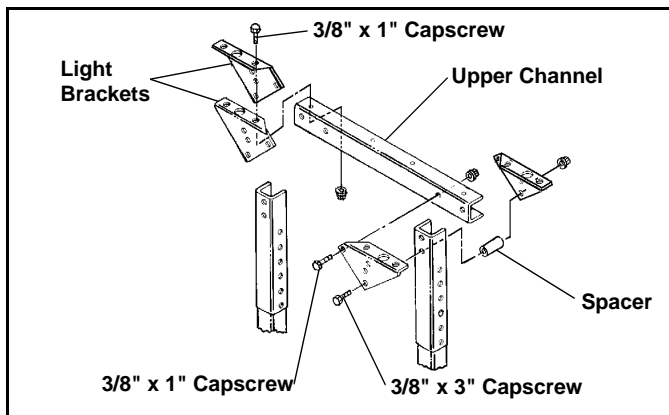

Figure 5
3. Attach pair of Light Brackets (#15) and (#16) to each end of Upper Channel with four (4) 3/8" x 1" Capscrews (#19), and Nylock Nuts provided. (See Figure 5)
4. Attach Light Brackets/Upper Channel assembly to Mounting Channels with two (2) 3/8" x 1" Capscrews (#19), and two (2) 3/8" x 3" Capscrews (#21), Washers, and Nylock Nuts provided. Use two (2) Spacers (#25) between Light brackets and channel on long Capscrews. (See Figure 5)